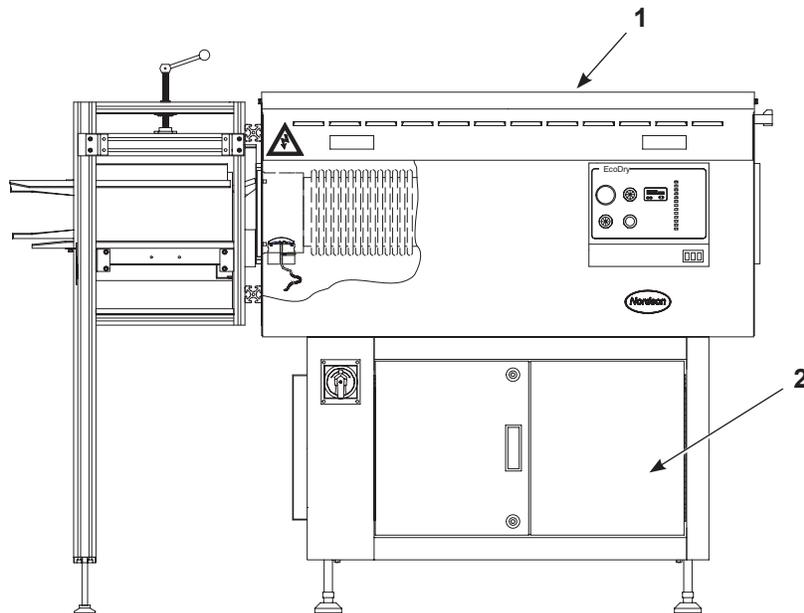

Figure 1 EcoDry Series Induction Dryer
2. See Figure 1. Open coil tray lid (1) and base enclosure doors (2).